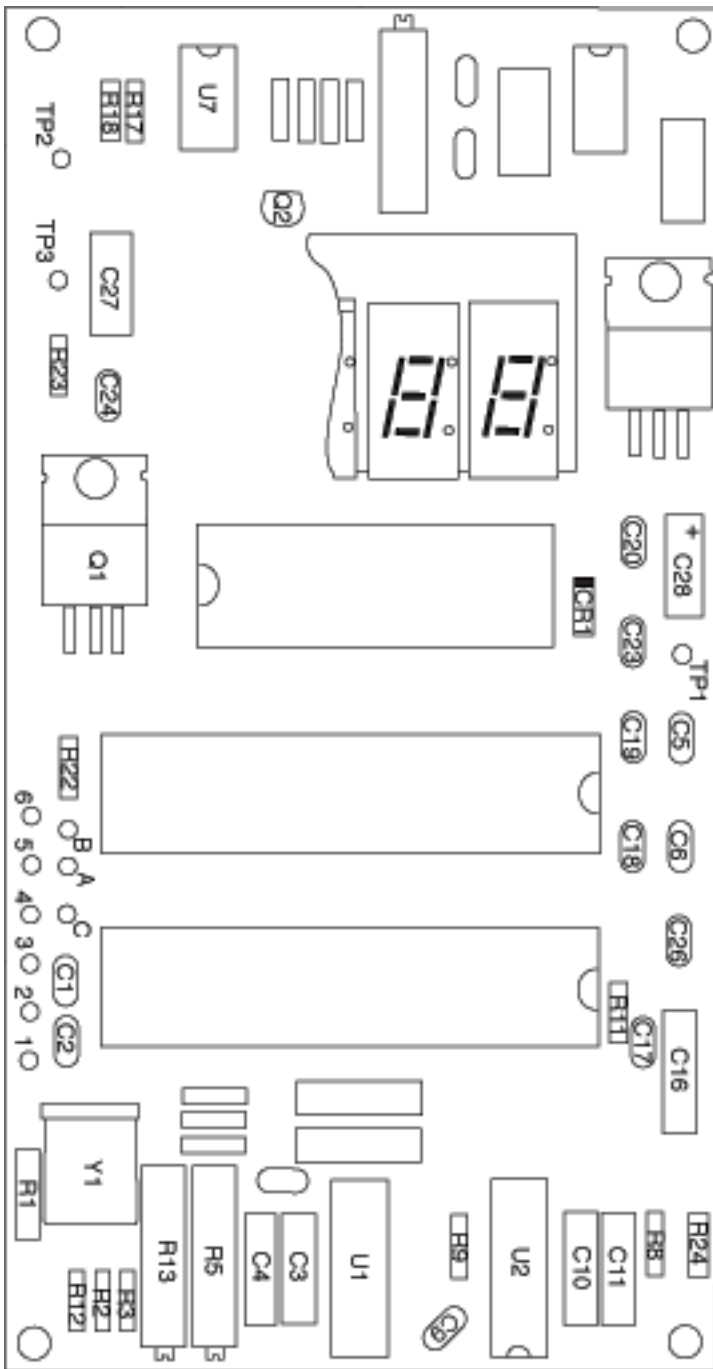

Figure 13.1. 700M Circuit Board Layout
13.2 Calibration Procedure (See Figure 13-1)